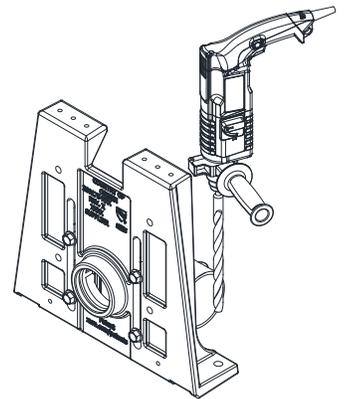

Figure 5
6. Align the carrier with the waste line. Drill holes and install concrete anchors per manufacturer's instructions. See Figure 5. Lag down feet using 1/2[13] anchors.